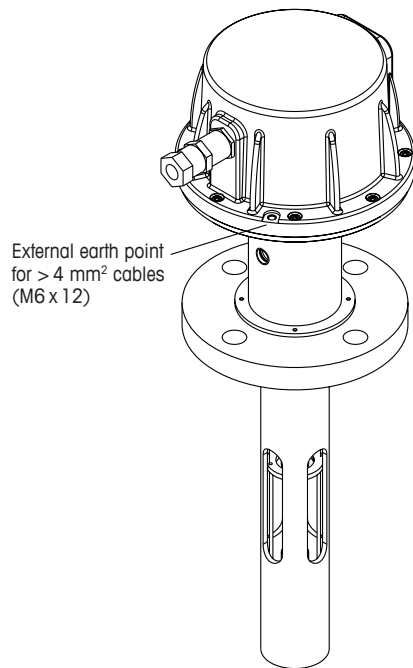

Figure 45 External earth point. Standard probe (SP) process adaption shown.
- The GPro 500 must be connected to an external protective earthing system via one of the screws for the lid to the sensor head (see Figure 45 on page 84).